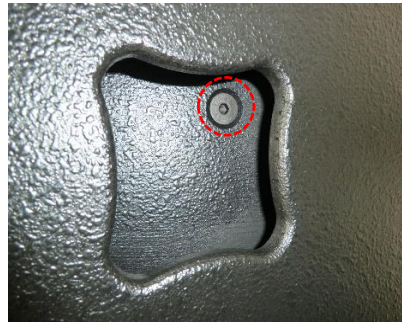

Fig.5-2-1-F
- (3) Lift the horn up and remove the cables from crossover network. (Fig.5-2-1-G)